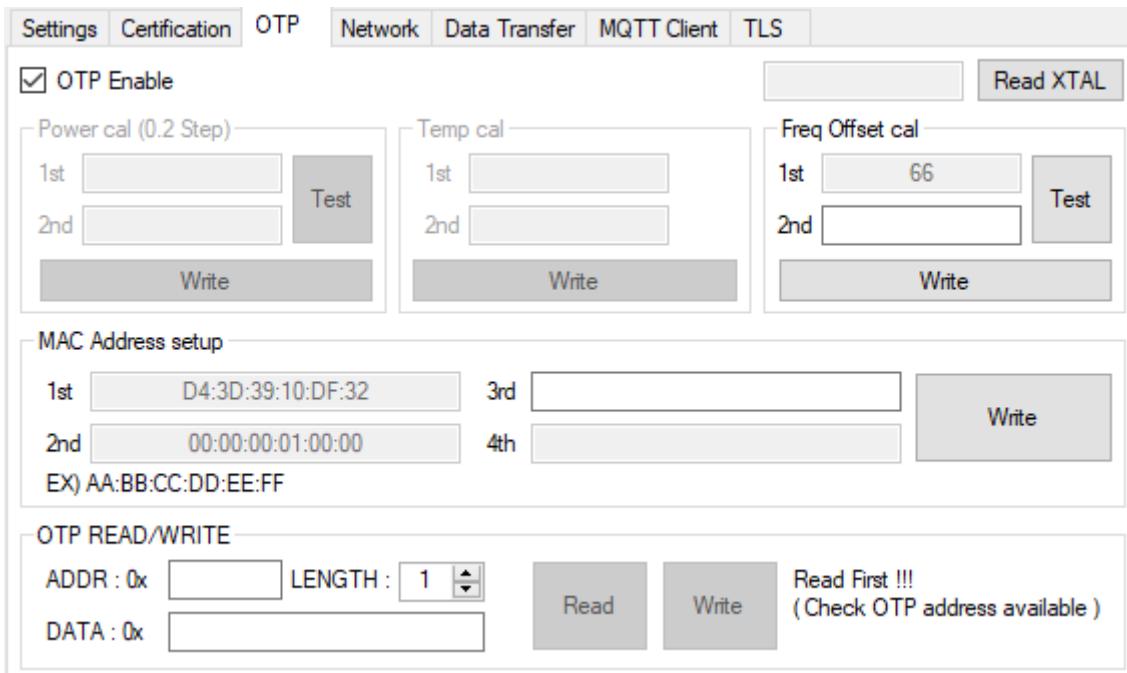

Figure 38: OTP Mode
- The current OTP data is as shown in Figure 38.